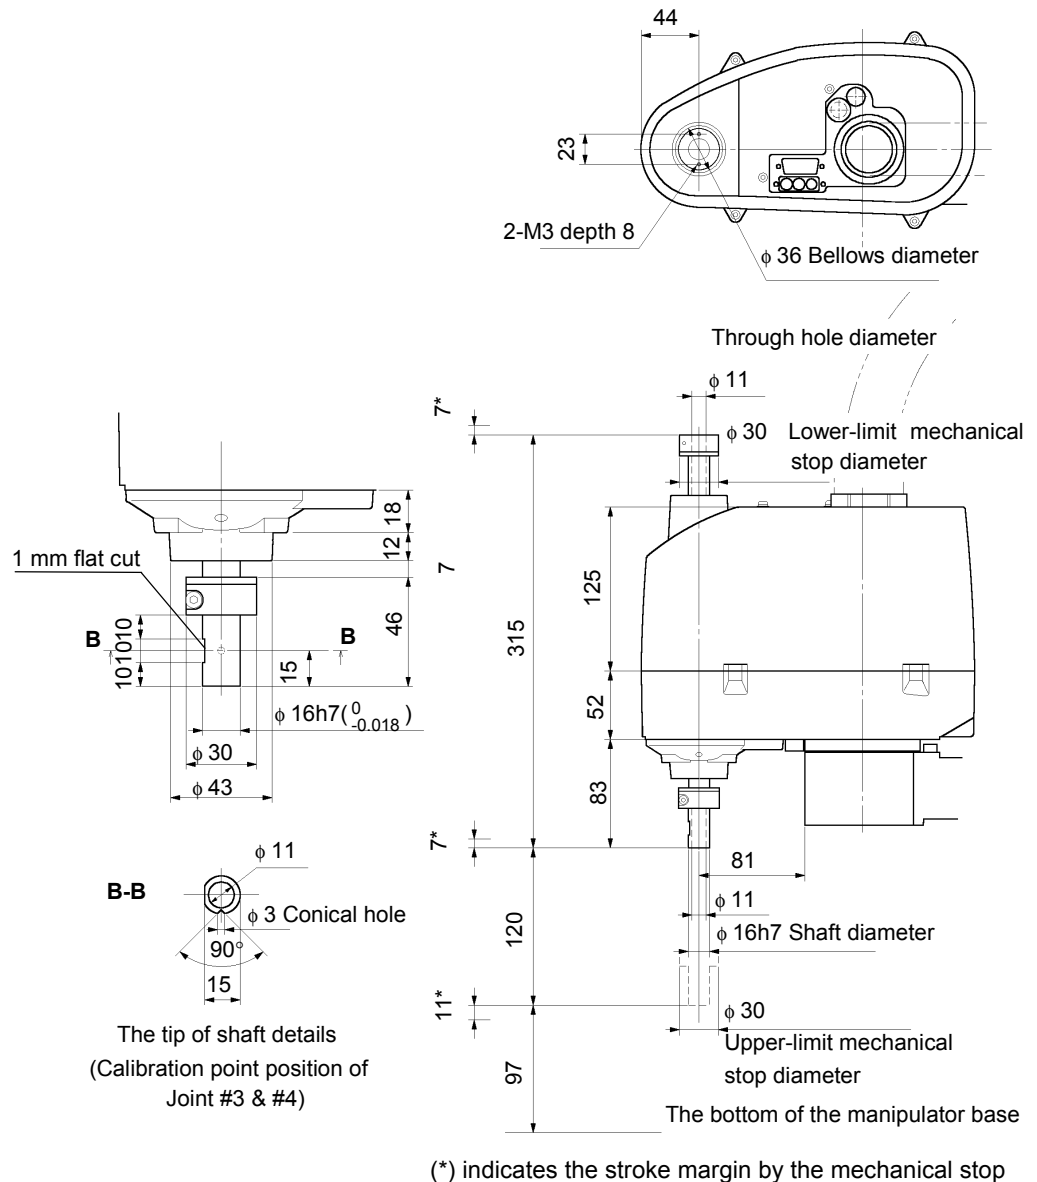

Figure 10. Dimensions around the shaft of Standard model [Unit :mm]
- ◆ A detail of the end effector mount is shown in Figure 10. (See Figure 20 in chapter 7. *External Dimensions* for overall dimensions.)
The Joint #3 shaft has a through-hole to the end effector for supplying air and electricity. The diameter of the through-hole is ϕ 11 mm. The lower limit mechanical stop of Joint #3 has two threaded holes (depth 8 mm) for M3 bolts for tooling. (See Figure 10.)